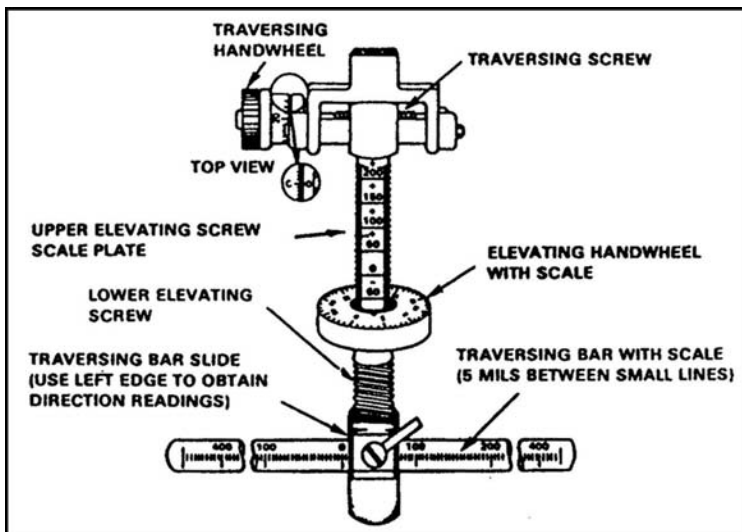

Figure 071-000-0005-4. Traversing and elevating mechanism
- (1) Label the range (in meters) from the gun to each target in the secondary sector.
- (2) Sketch aiming and elevation stakes between the gun position and the target as shown in figure 071-000-0005-2 and figure 071-000-0005-3.
5. Using the T&E mechanism, determine the direction, elevation, and range to each target. Write this information in the DATA SECTION of the range card as follows (figure 071-000-0005-2 and figure 071-000-0005-3):
(1) Lay the gun on the base of the target.
(2) Read the direction on the traversing bar at the left edge of the traversing bar slide (figure 071-000-0005-4).
(3) Determine by the direction of the barrel whether the reading is right or left.
(1) Lay the gun on the base of the target by rotating the elevating handwheel (figure 071-000-0005-4).
(2) Read the number (including a "+" or "-" sign, unless the number is "0") above the first visible line on the elevating scale. (In figure 071-000-0005-4, this reading is "-50.")
- (3) Read, from the elevating handwheel, the number in line with the indicator. (In figure 071-000-0005-4, this reading is "3.")
6. Record the data you found using the T&E mechanism (figure 071-000-0005-4).